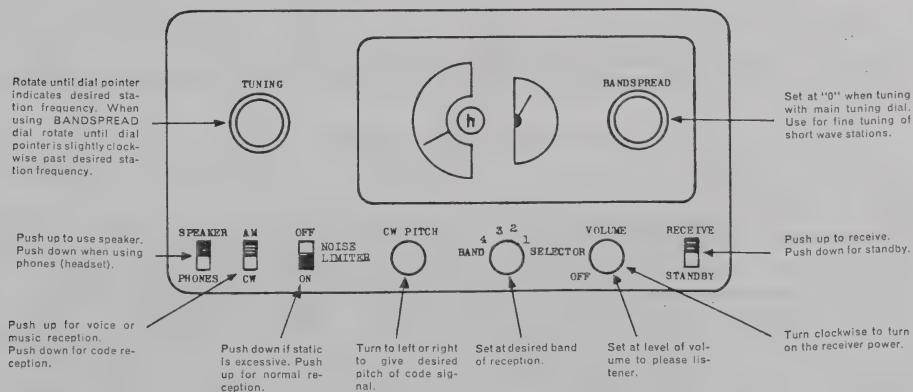

Figure 5. Radio Receiver Model S-38, view showing use of controls.
Reference to Figure 5 will help in becoming familiar with the use of the controls.
9. **BAND SPREAD control.**—This control is used independent of the main tuning control to provide for fine tuning of short wave stations. See Figure 5 for illustration on use of the controls. Also following paragraph on band spreading.